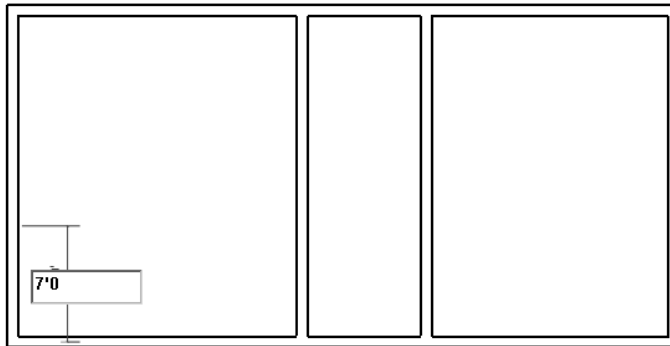

Figure 3-56 Specifying the distance for sketching the third internal wall
3. Move the cursor to the lower left corner and then move it vertically upward. When the temporary dimension appears, enter **7'0"** and press ENTER to select the starting point of the third interior wall, as shown in Figure 3-56.